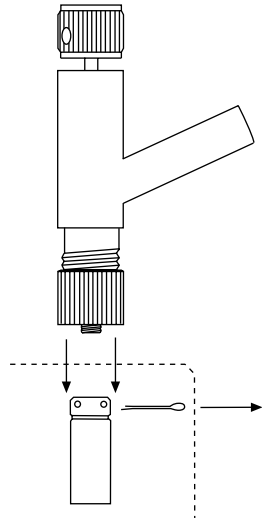

Figure 70. Attaching the Vacuum Connector
2. Push the Vacuum Connector onto the vacuum port on the back of the camera (see Figure 70). Tighten the bottom knurled ring (the one closest to the camera body).